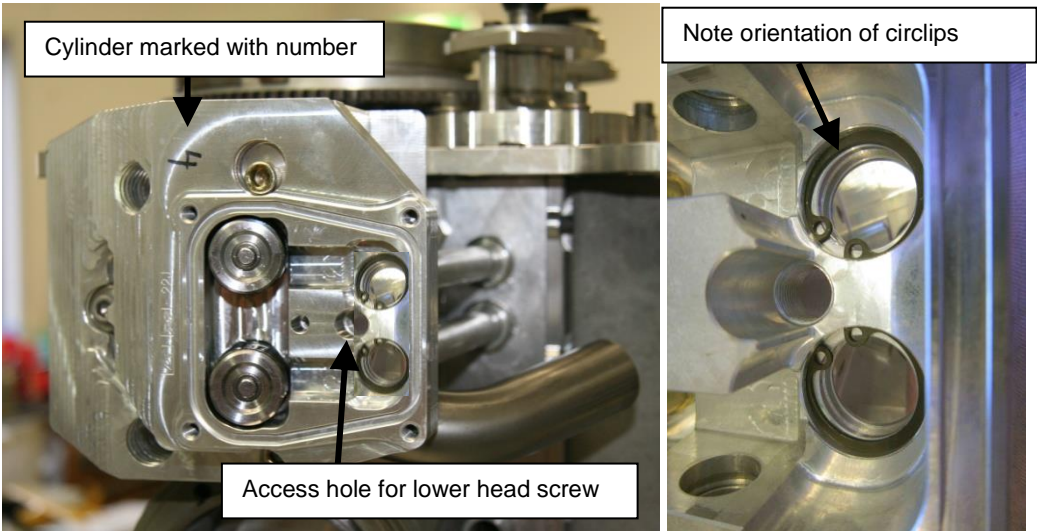
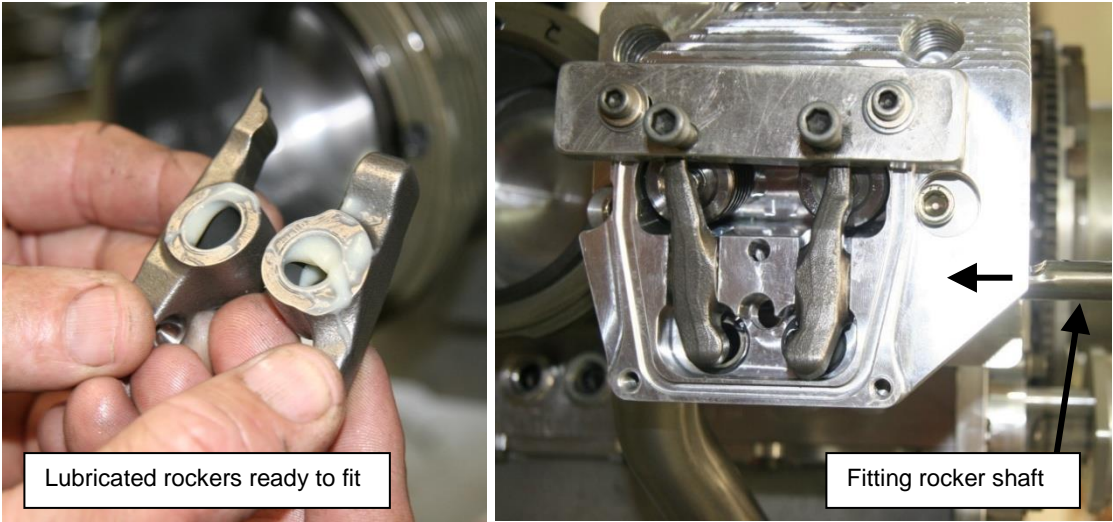

Figure 190 – Fitting Rockers #1
Figure 191 – Fitting Rockers #2
5. For hydraulic lifter engines, fit new O rings to the pushrod tube adaptors. Again these must be well lubricated with oil or Nulon L90. Fit the adaptors to the crankcase. See Figure 190 for circlip orientation.
9. Fit the cylinder head to the cylinder, feeding the pushrod tubes into the head – see Figure 190.
13. Fit the valve rockers, taking care that the pushrod is correctly seated into the sockets in the lifter and in the rocker. The rockers and the rocker shaft must be lubricated well with Nulon L90 or oil as shown in Figure 191 and then driven in using a suitable punch and a soft hammer. The shaft is punched in with the rounded end leading.
15. Tighten the cylinder head screws (6) to 15 lb.ft and then to the value specified in Table 9 using a standard diagonal tensioning pattern.
16. Fit the tapered blanking plug to the access hole for the lower cylinder head screw (shown in Figure 190 – left). Note that this plug must not be over-tightened. If the plug is done up too tightly then over time its tapered thread will wear the thread in the cylinder head, requiring it to be screwed in further and further to be tight. Eventually the thread can be worn so much that the tapered plug will not lock in. A tension of about 6lb.ft is sufficient for this plug.